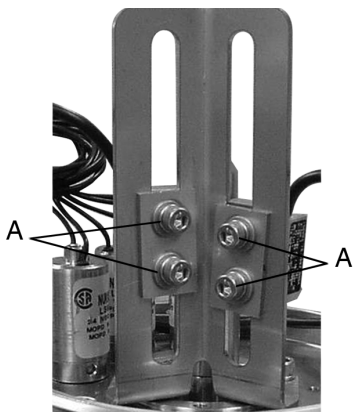

Figure 25: Control Module Detail
3. Loosen the cap screw (Figure 25, item A) that holds the switch mounting block in position.
8. Move the switch down in the groove until it is close to breaking the circuit. Tighten the cap screws (Figure 25, item A).